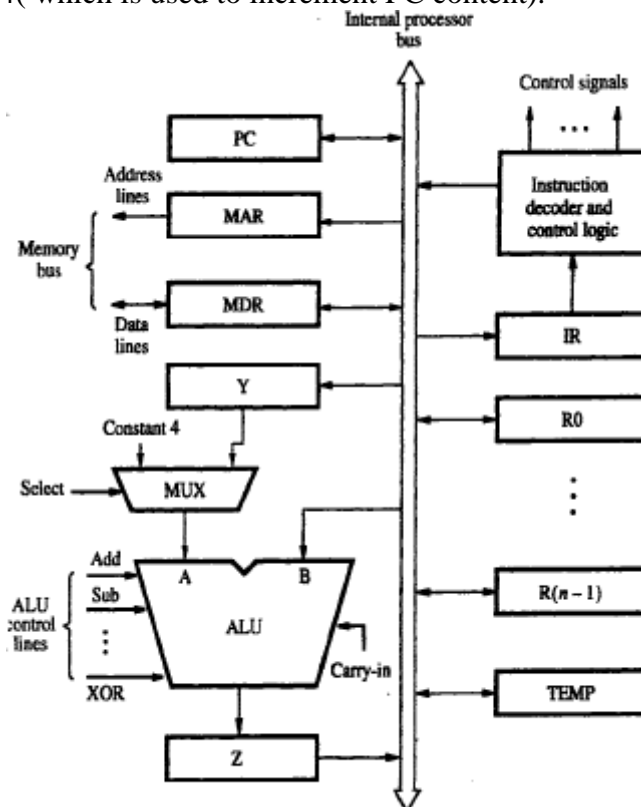

Figure 7.1 Single-bus organization of the datapath inside a processor.
- ALU and all the registers are interconnected via a **Single Common Bus** (Figure 7.1).